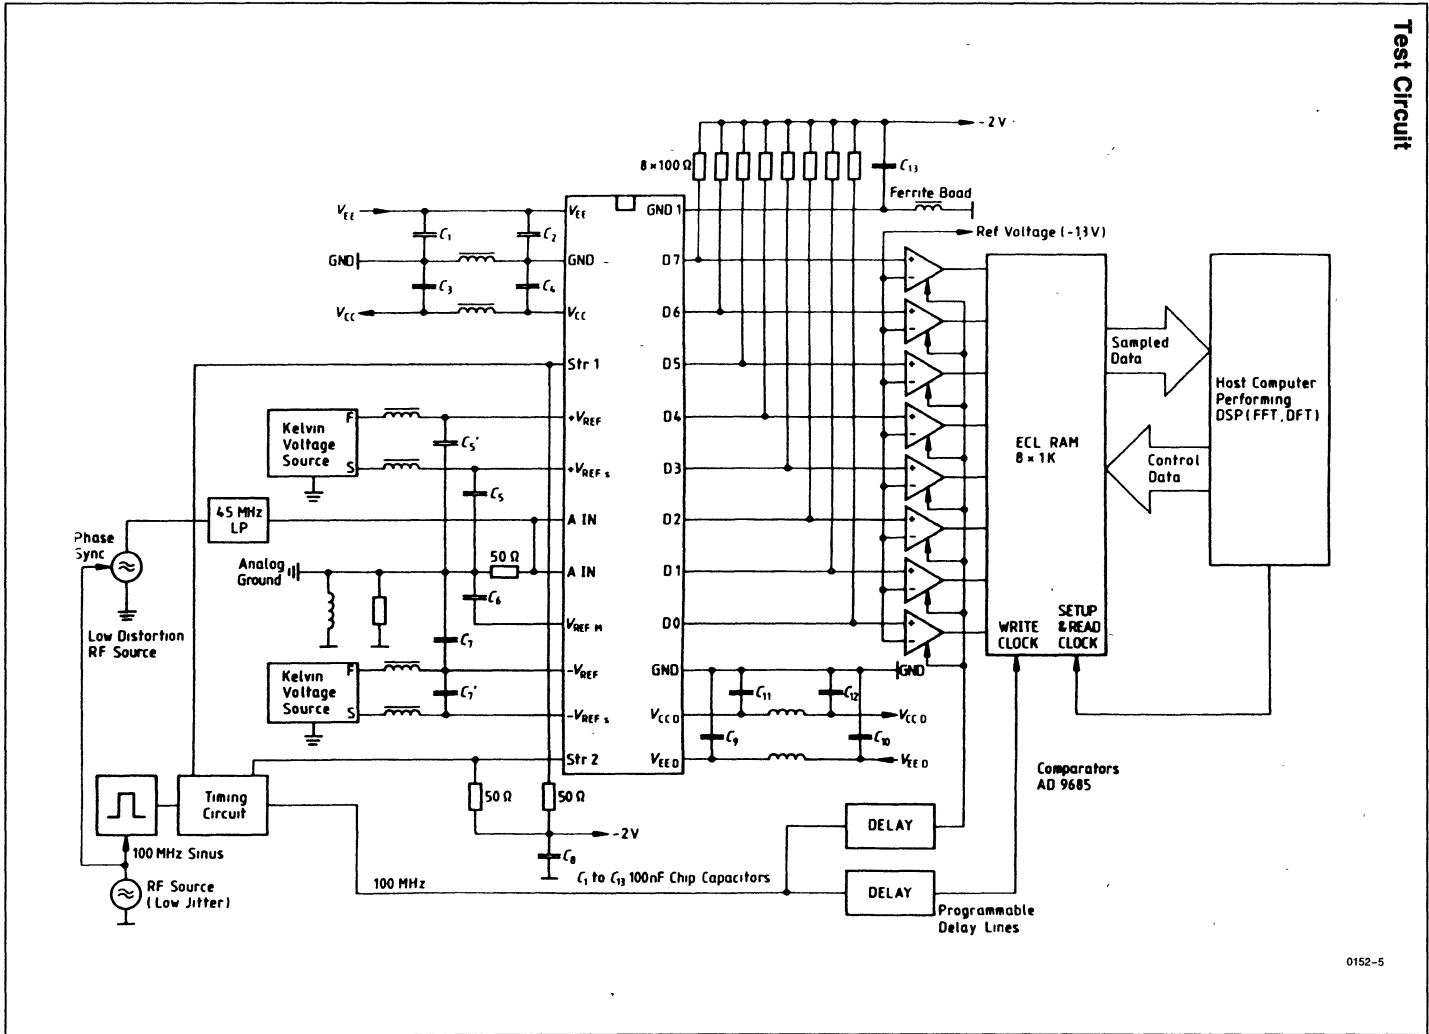

Figure 1
2. Dynamic measurements are performed at 100 MHz sampling rate using the typical strobe timing. All specified parameters are derived from the FFT of the converter's response to a full scale ($2V_{pp}$) sine wave input. The analog source impedance is 25Ω (50Ω line with 50Ω termination). The test circuit is shown in Figure 1.